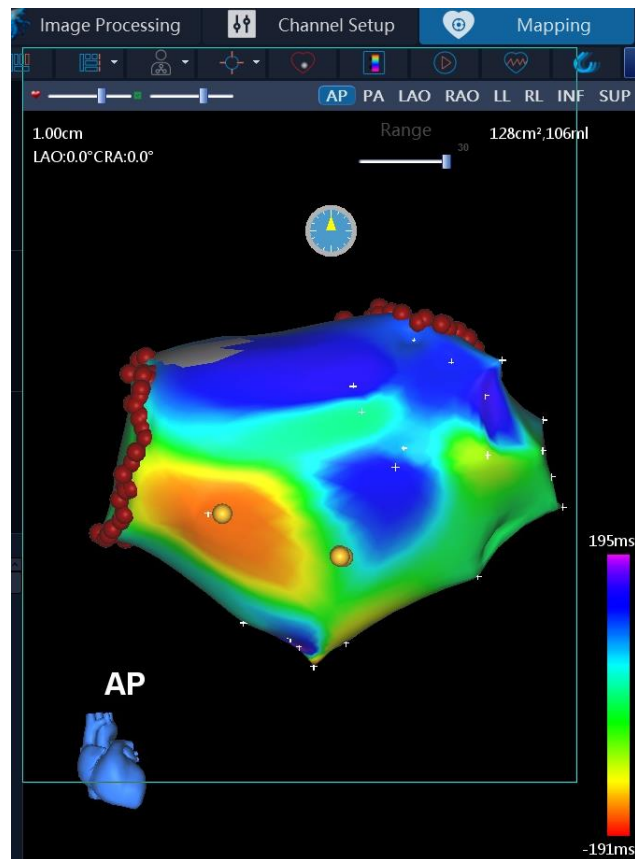

Figure 10-12 Select Custom Screen Capture Area
- c. By selecting Area, you can use the left-click and drag mouse button to select any custom rectangular area range in the screen and save the screenshot (Figure 10-12).